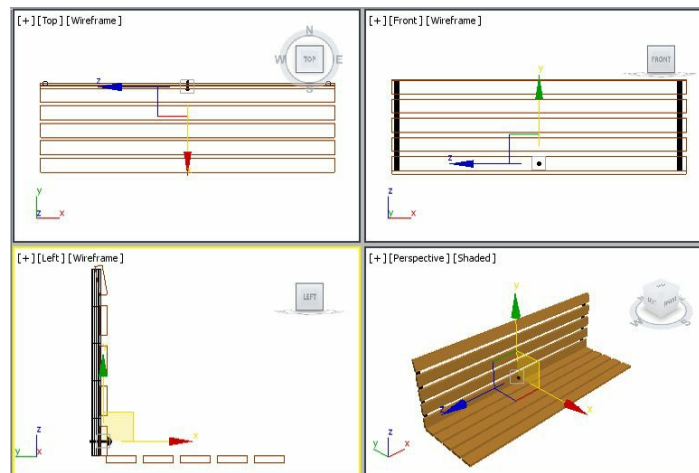

Figure 2-77 Alignment of rivet001 with horizontal back support
3. Choose the **Select and Move** tool and align *rivet001* with *horizontal back support* in all viewports, as shown in Figure 2-77.